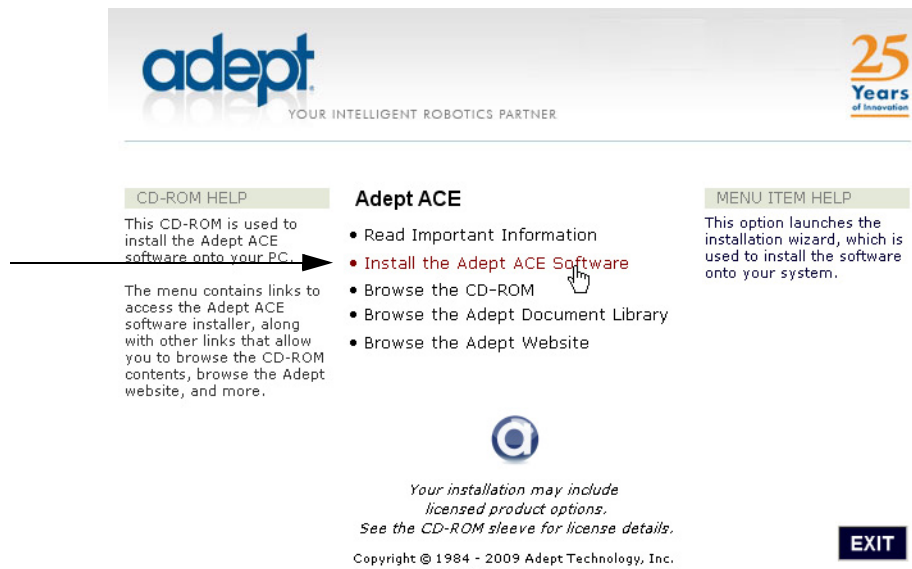

Figure 3-2. Adept ACE CD-ROM Startup Menu
1. Insert the CD-ROM into the CD-ROM drive of your PC. If Autoplay is enabled, the Adept Software CD-ROM menu is displayed - see Figure 3-2. If Autoplay is disabled, you will need to manually start the CD-ROM.